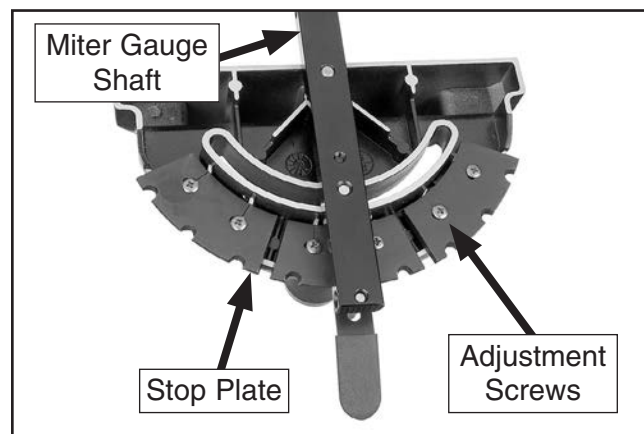

Figure 130. Checking 45° stop on miter gauge.
5. Loosen two Phillips head screws that secure 90° stop plate (see **Figure 130**).